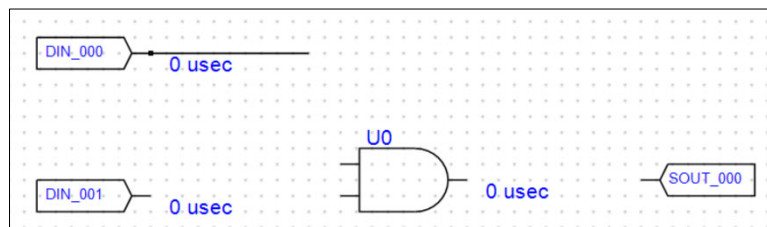

Figure 82 - Finish 1st Segment
- 2) Move the cursor to the end of the current segment and release the mouse button (Figure 82 - Finish 1st Segment).